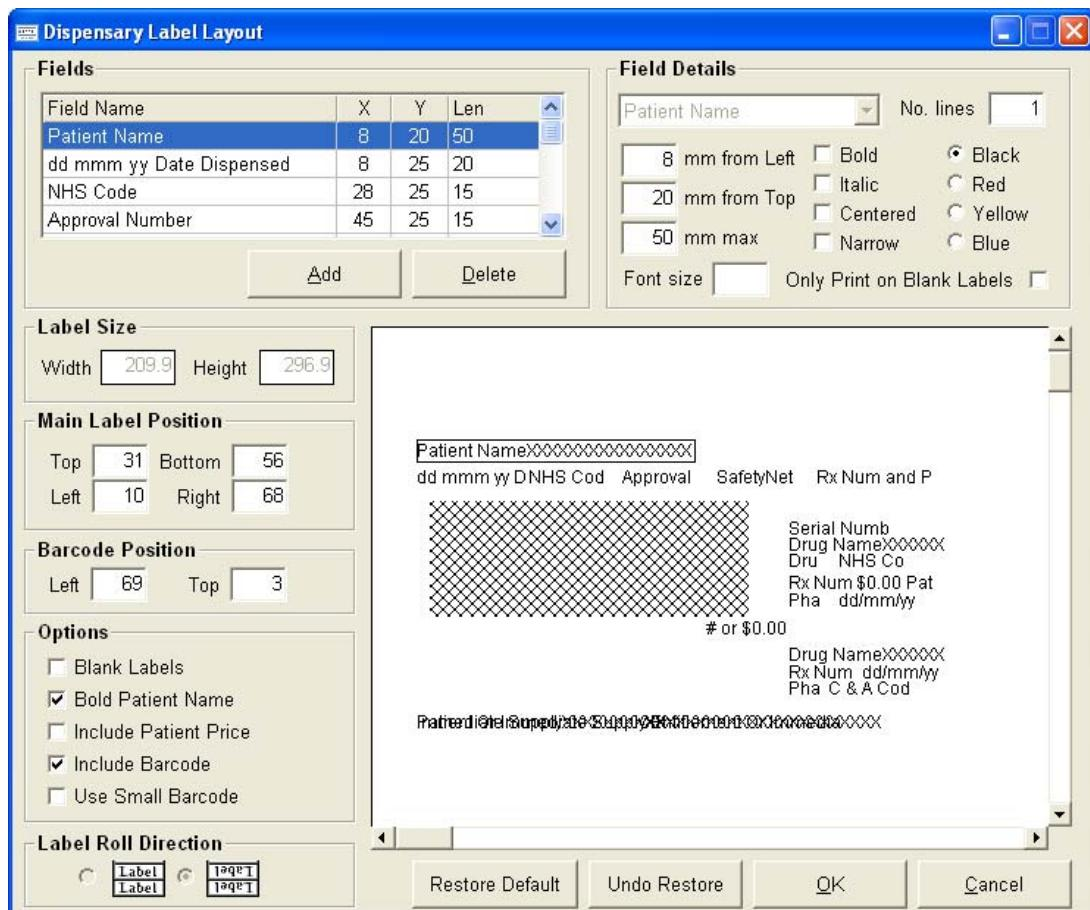

Figure 185
2. Ensure the ‘Script Labels’ option is selected and then click ‘Advanced...’ this will display the ‘Dispensary Label Layout’ window (as shown in Figure 185).